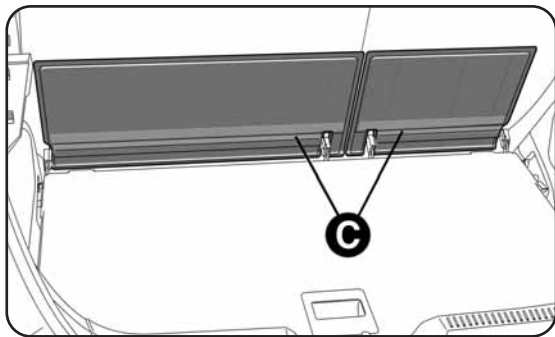

fig. 62
- always turn the elements C - Fig. 62 so that they are always turn the elements C - Fig. 62 so that they are in a vertical position against the seat backrest;